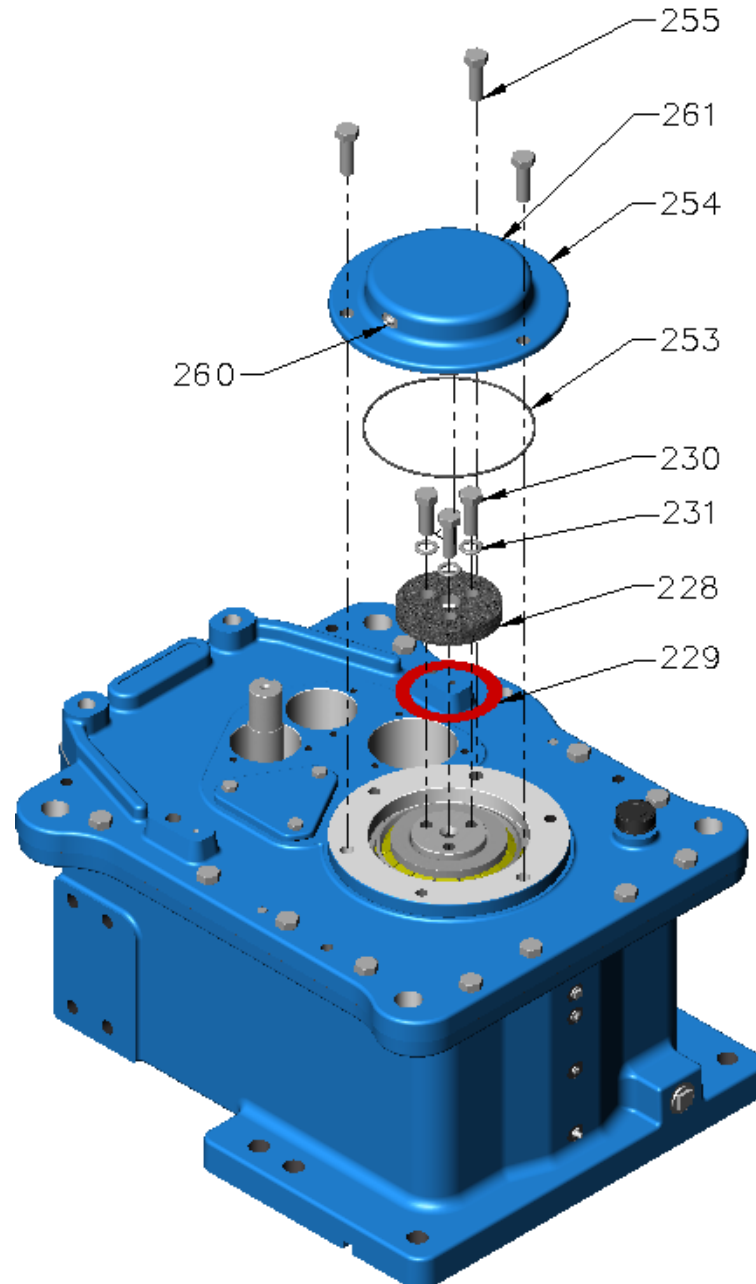

Figure 5 – Output Cap
- E. At output shaft, remove the following items (refer Figure 5):